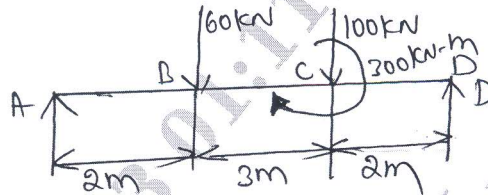

Fig.Q.5(b)
b. Draw the shear force and bending moment diagram for a simply supported beam subjected to the loads as shown in Fig.Q.5(b) also find the location of point of contraflexure. (14 Marks)